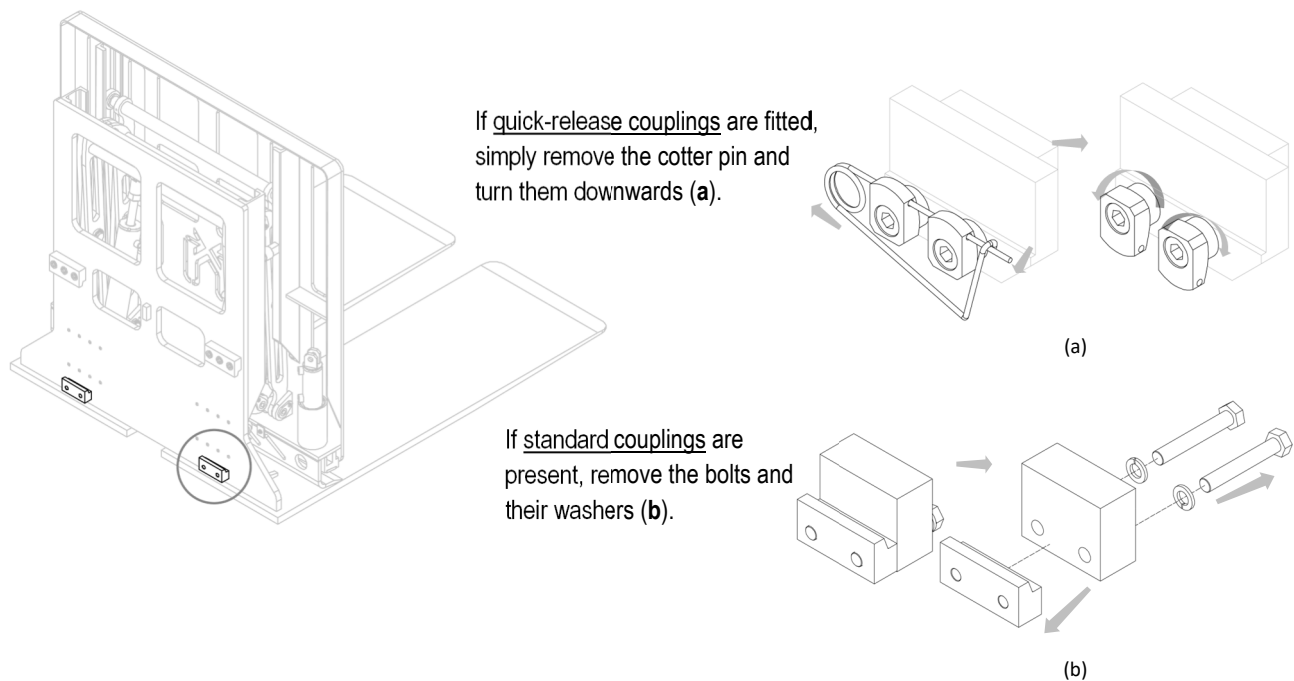

Figure 2
4. Remove the lower couplings from the equipment (see *Figure 2*).